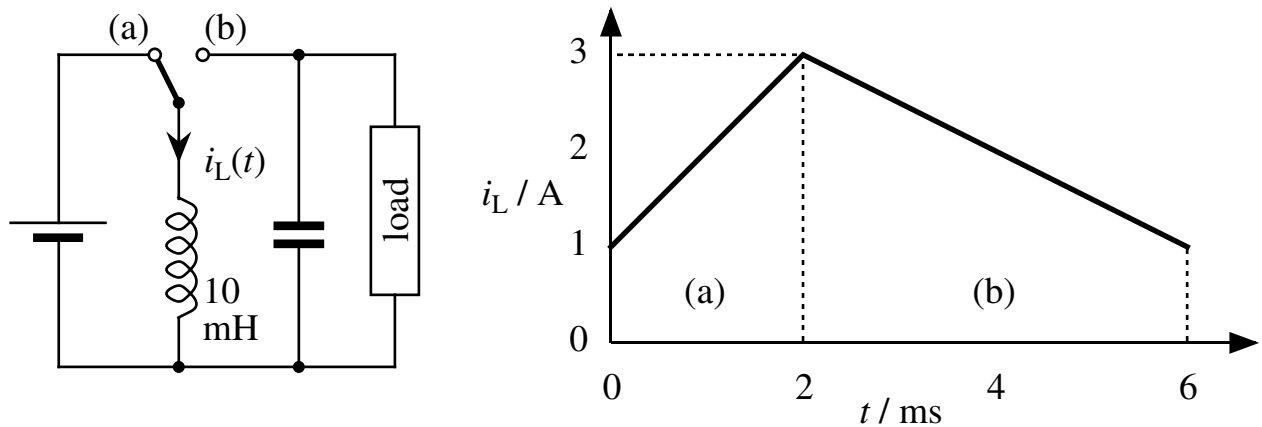

Figure 20. Switch-mode power supply.
- 6.8 A switch-mode power supply can be modelled by the circuit shown in figure 20, which also shows a plot of the current through the inductor as a function of time for a single, complete period of switching. The switch alternates between positions (a) and (b) with corresponding period labels on the plot.